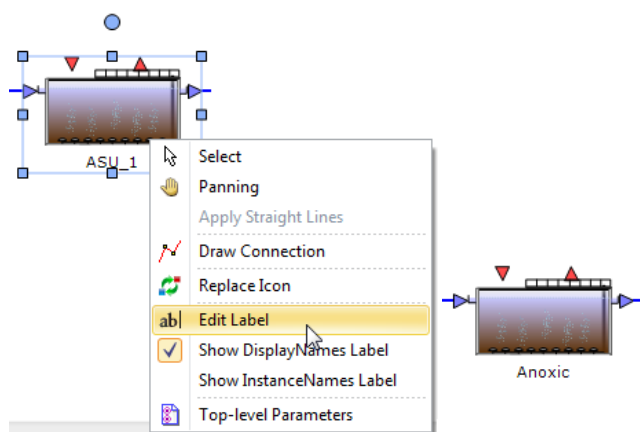

Figure 5.4 Rename a Block
- right-clicking on the Block in the Layout Sheet, choosing "Edit Label" from the Context menu (Figure 5.4) and confirming, by clicking outside the label.